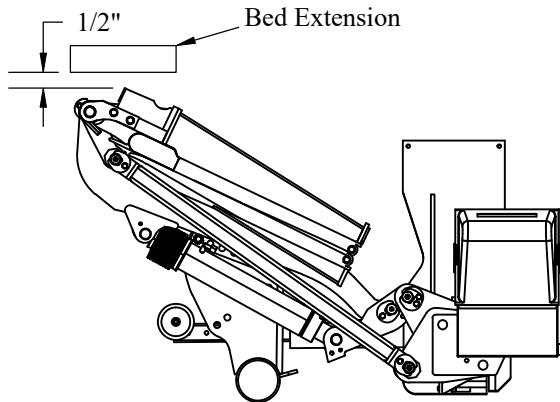

Figure 25: Stowed Position
1. **Position** the platform in the stowed position, leaving a gap of 1/2" between the closed platform and the under structure of the Bed Extension (Figure 25).